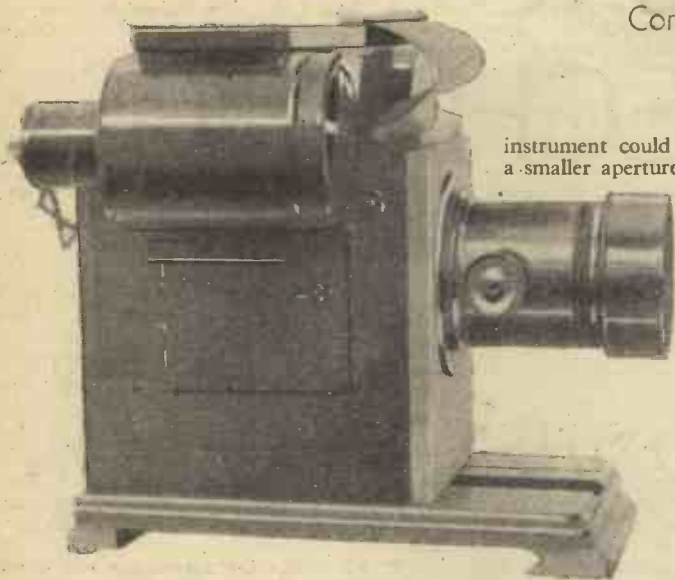

Fig. 1.—The finished epidiascope.
Fig. 1 is an illustration of the completed instrument. It is constructed entirely of "bits and pieces," the main items being some scrap wood to make the box, two "Ostermilk" tins, two health-salt tins, some tinfoil, a sheet of glass and a mirror.
Fig. 1 shows the complete arrangement, and Fig. 2 the switch in detail.
Referring to Fig. 1, the pendulum 1 hangs from the support 3 through a suspension spring 2 in known manner; the lower end of the pendulum is provided with the usual bob 4. The driving rod is shown at 5 and is somewhat shorter in length than the pendulum; it swings on the knife edge of a bar 6.
weight consists of a metal ball 22 soldered to one end of the lever 21. Co-operating with the contact is a latch switch. This consists of a cylindrical member 23, which is mounted to occupy the position shown in Fig. 1. The top of the member 23 is provided with a cover 24, having an opening through which passes the top of a contact formed by a bolt 25. The groove 26 shown in this bolt is simply for the purpose of holding lubricating oil. A spring 27 presses upon the bolt 25, the lower end of the spring being held by a screw-threaded key 28; by